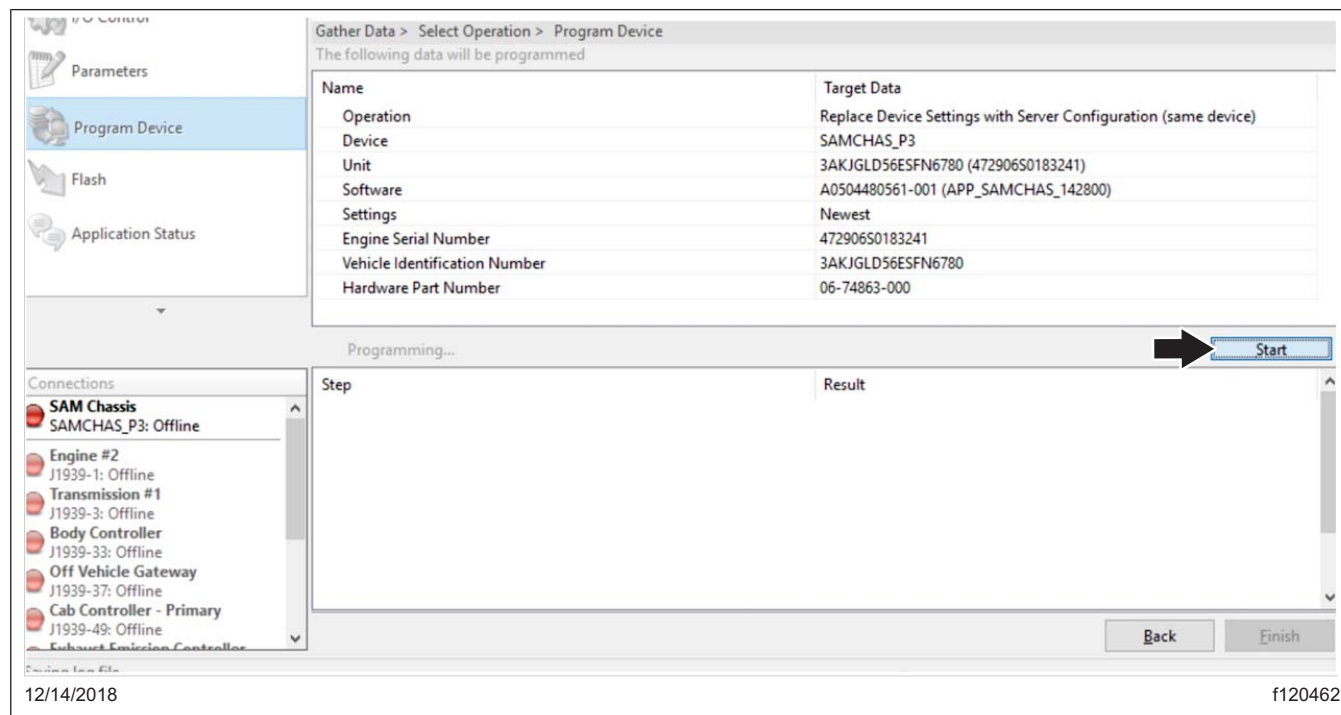

Fig. 11, Programming the Controller
12. Review and verify the VIN and hardware part number. Click "Start" to program the controller. The software will be flashed and the new parameter set will be written to the controller on the vehicle. See Fig. 11.